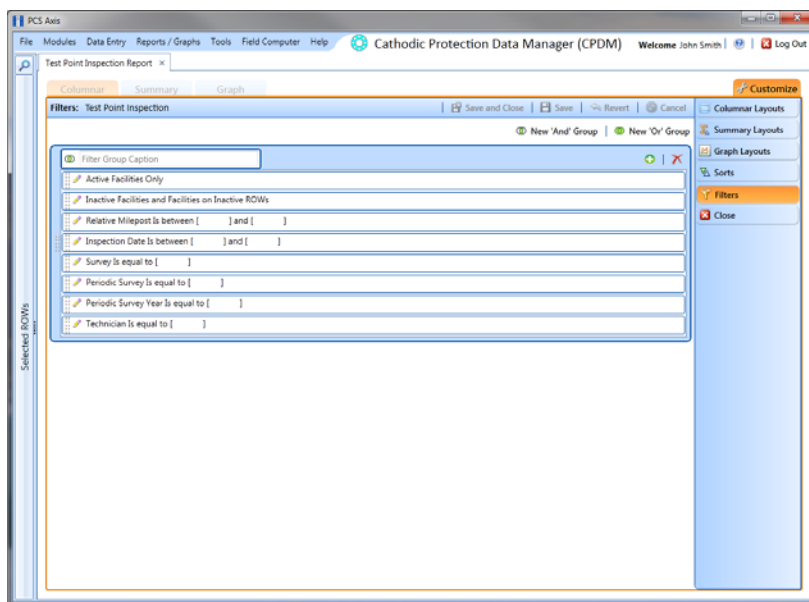

Figure 14-43. Filters
- 3 Click the **Customize** tab  then the **Filters** button  to open the *Filters* page (Figure 14-43).